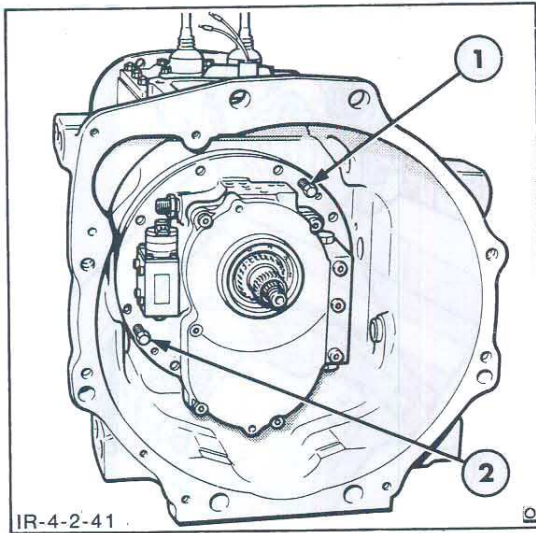

Figure 41
5. Remove the distributor housing retaining bolts. Obtain two M8 jacking bolts, approximately 30 mm (1.25 in.) long. Screw the bolts into the housing as shown in Figure 41, then continue to tighten until the distributor housing is freed from the transmission case. Lift the housing from the transmission and remove the jacking bolts.
- Install the oil distributor housing onto the transmission casing, Figure 41, and secure with the retaining bolts. Exercise care when installing the oil distributor to prevent the sealing rings on the front input shaft from being damaged or dislodged. If the P.T.O. shaft splines do not align with the hydraulic pump inner rotor turn the shaft at the rear axle to align them. Tighten the retaining bolts to the specified torque, see "Specifications" – Chapter 3.